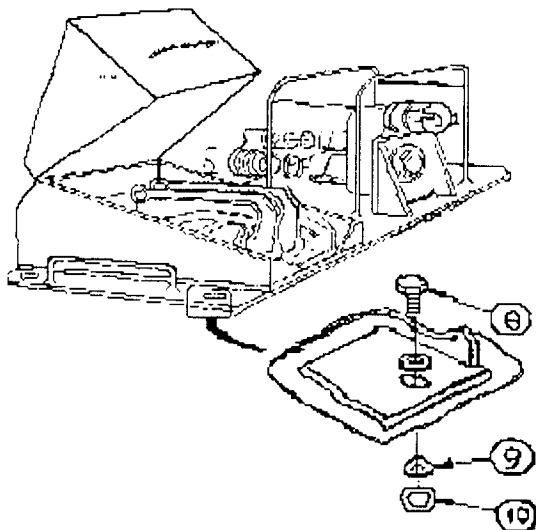

Figure 4-18 Control Box Assembly.
(f) Loosen nuts (10) in four places and remove washer (9) and Bolts (8). See Figure 4-18.